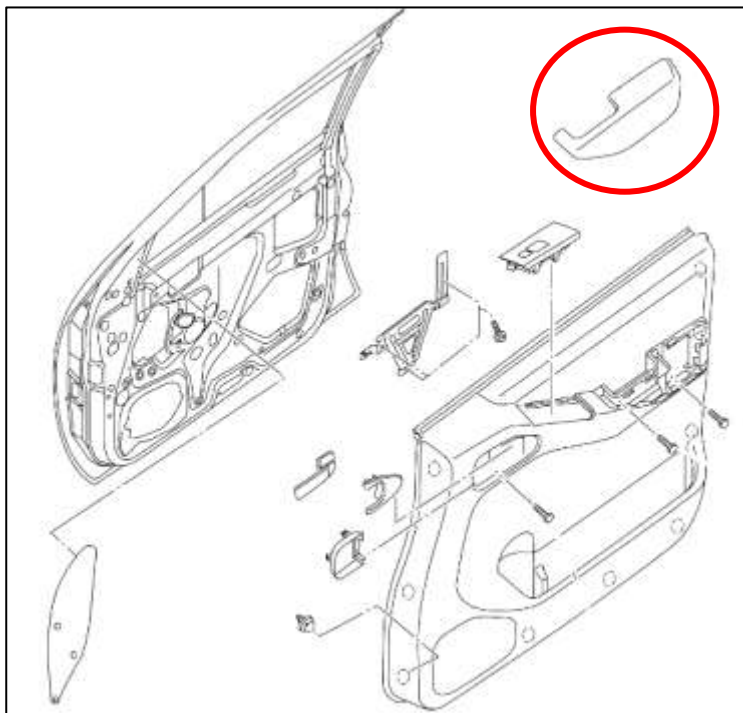

Figure 75
3. Remove the Trim Piece on the Arm Rest with a Trim Removal Tool. *Figure 75.*